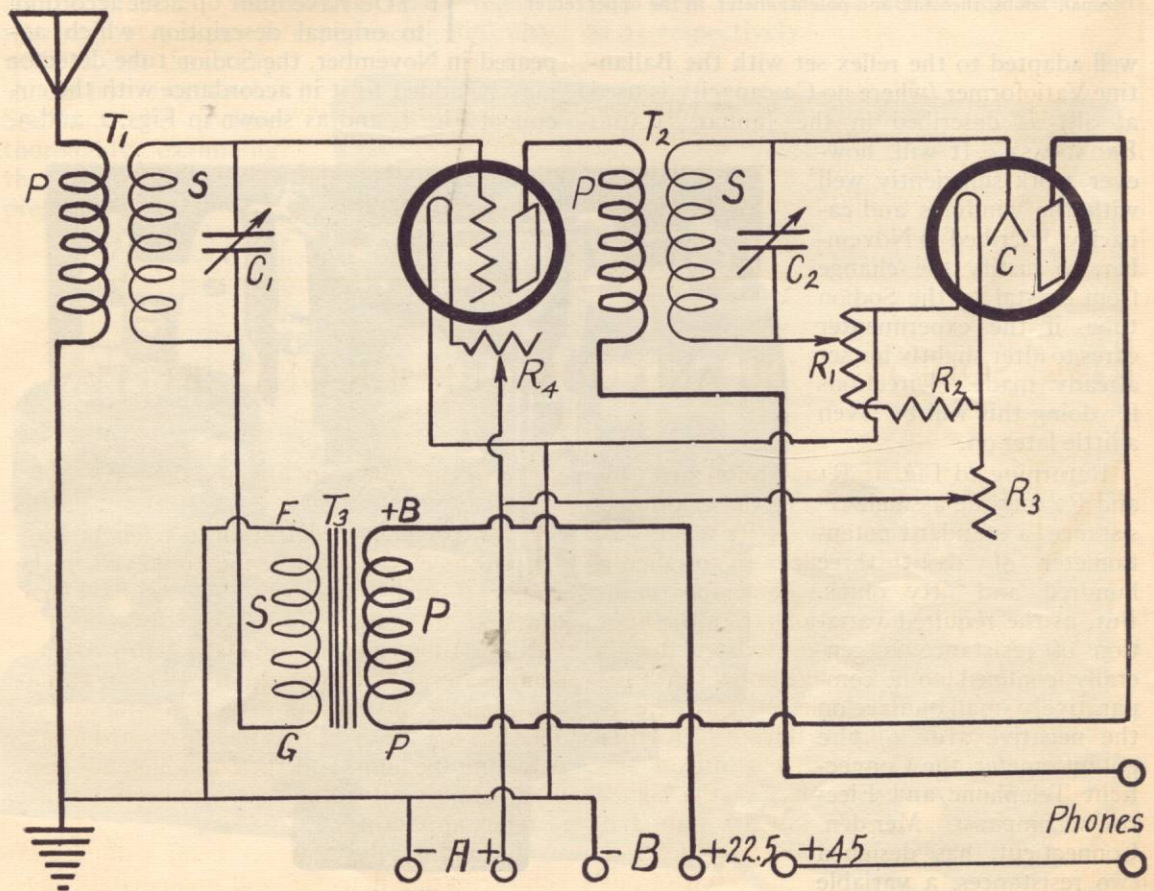
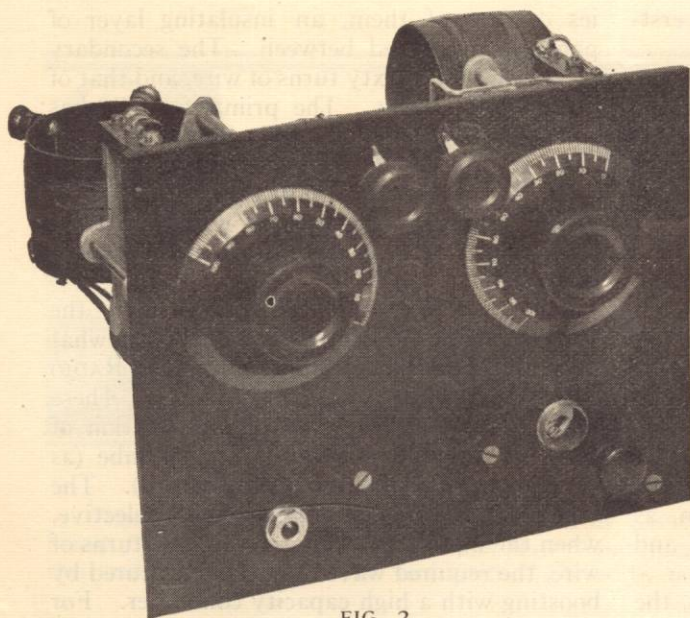

FIG. 1
FIG. 2
The Sodion detecting circuit is a simple one, and it was illustrated fundamentally in the Lab department for last month. The input and output circuits are similar to those of the standard tube, and Fig. 1 shows the manner in which the Sodion bulb is substituted for the crystal detector.
Returning to Fig. 1:  $R_1$  and  $R_2$  may be a single resistance, a standard potentiometer of about three hundred and fifty ohms. But, as the required variation of resistance is generally confined to a comparatively small ohmage on the negative side of the potentiometer, the Connecticut Telephone and Electric Company, Meriden, Connecticut, has designed two resistances, a variable and a fixed one, respectively  $R_1$  and  $R_2$ . The variable
**I**F YOU have built up a set according to original description which appeared in November, the Sodian tube detector may be added to it in accordance with the circuit of Fig. 1, and as shown in Figs. 2, and 3,